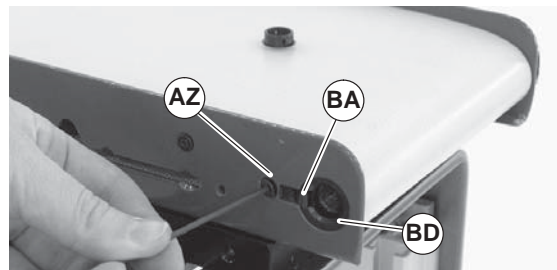

Figure 33
- Loosen but do not remove screw (Figure 33, item AZ). Push until pulley retaining sleeve clip (BA) pushes out.
- Remove retaining clip (BA) and screw (AZ).
- Position bearing anvil/sleeve removal tool (Figure 34, item BB) (25-09, part of tool kit 4500) over retaining sleeve (Figure 33, item BD).
6. Insert bolt (Figure 35, item BC) (906–278, part of tool kit 4500) into retaining sleeve (Figure 33, item BD).